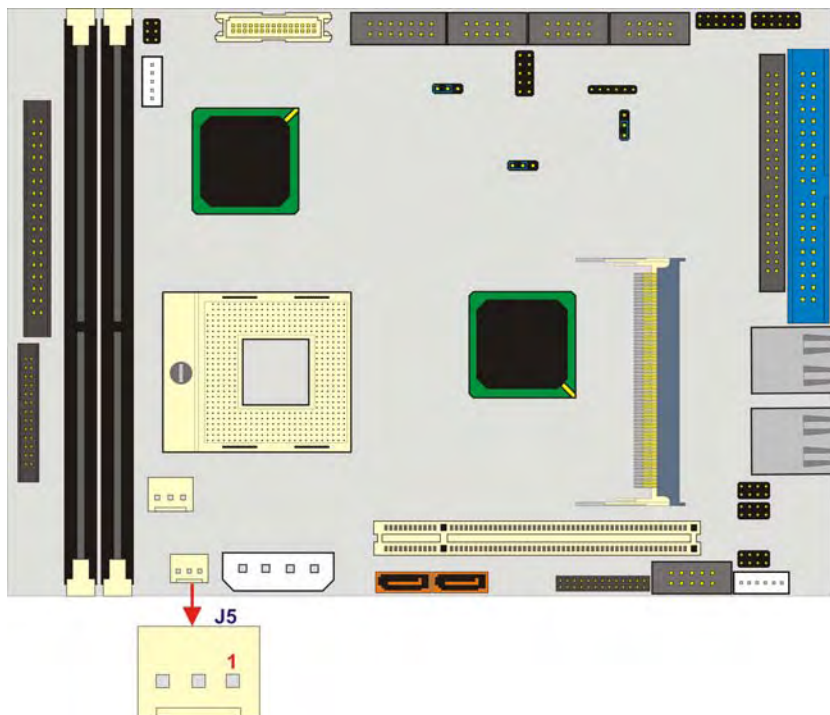

Figure 3-4: ATX PS_ON Connector Location
- CN Location:** See Figure 3-4